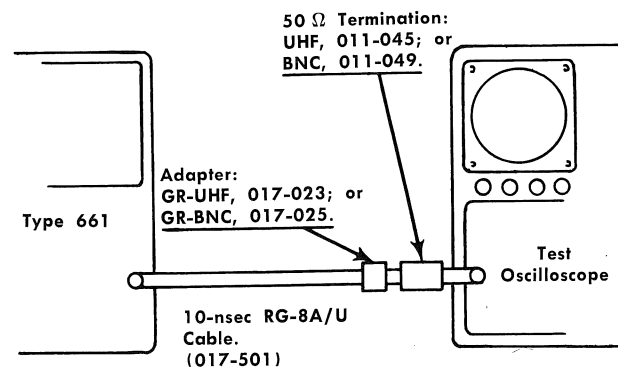

Fig. 5-7. Checking the Amplitude/Time Calibrator peak-to-peak amplitude.
in Fig. 5-7. Adjust per the Type 661 calibration procedure.
- e. Connect the Channel B P6038 Probe to the Type 661 Amplitude/Time Calibrator by adding a coax-to-probe adapter (item 12 of "Equipment Required") to the termination shown in Fig. 5-7.